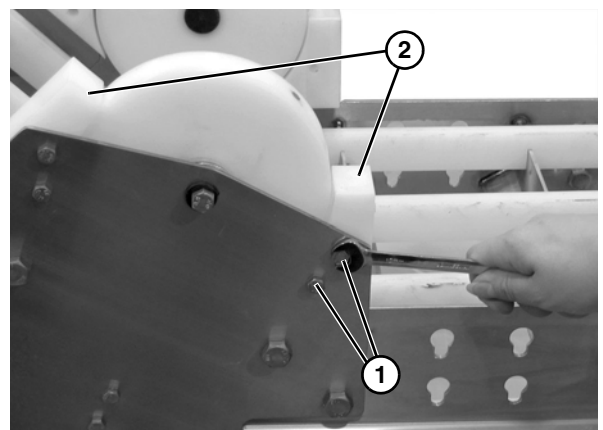

Figure 53
2. Remove two cap screws (**Figure 53, item 1**) on each side of the knuckle and remove the hold down roller guards (**Figure 53, item 2**). Repeat on opposite side of the conveyor.